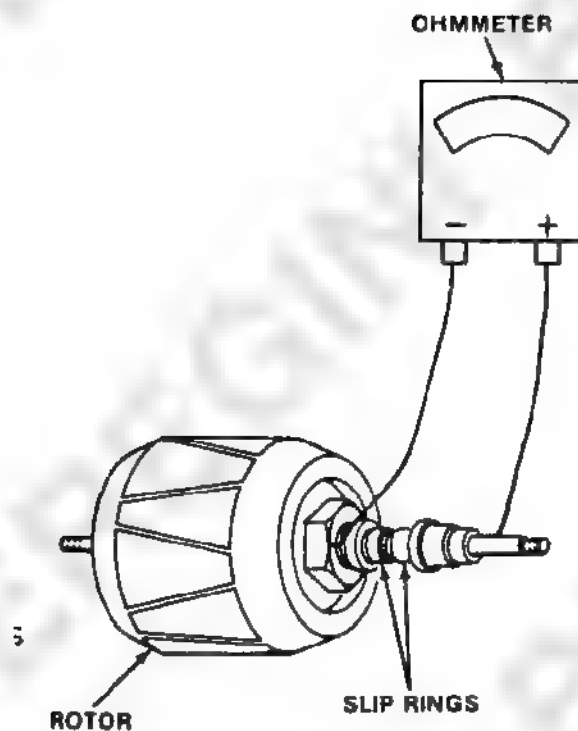

Figure 2-11. Rotor Ground Test.
- Step 14. Check for grounded rotor field circuit according to figure 2-11.